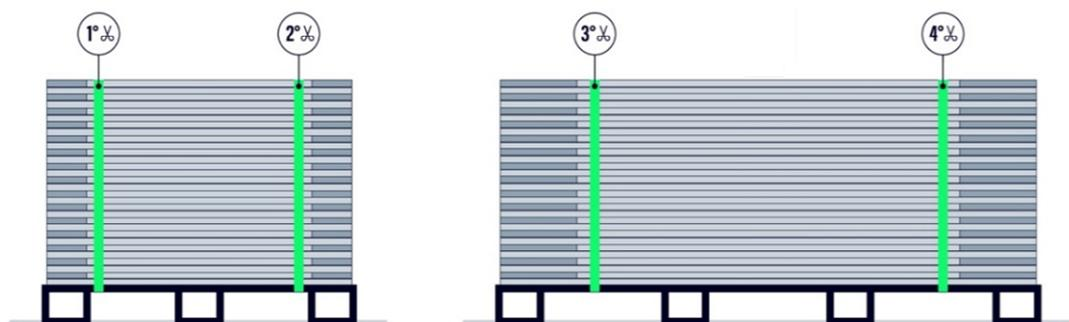

Figure 23: top box internal straps removal order.
- c) Cut the four internal straps (Figure 23).